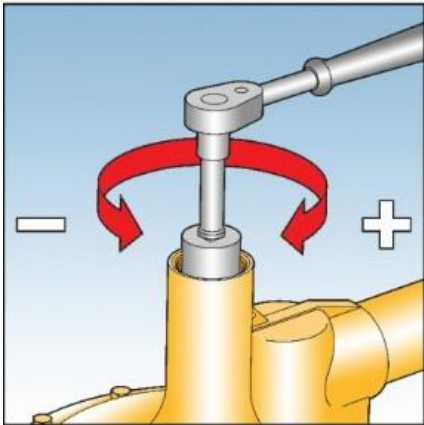

Fig. 6
4. Turn anticlockwise (-) to reduce loading on regulator spring to minimum. See Fig. 6 (If no safety devices fitted go to instruction 10).